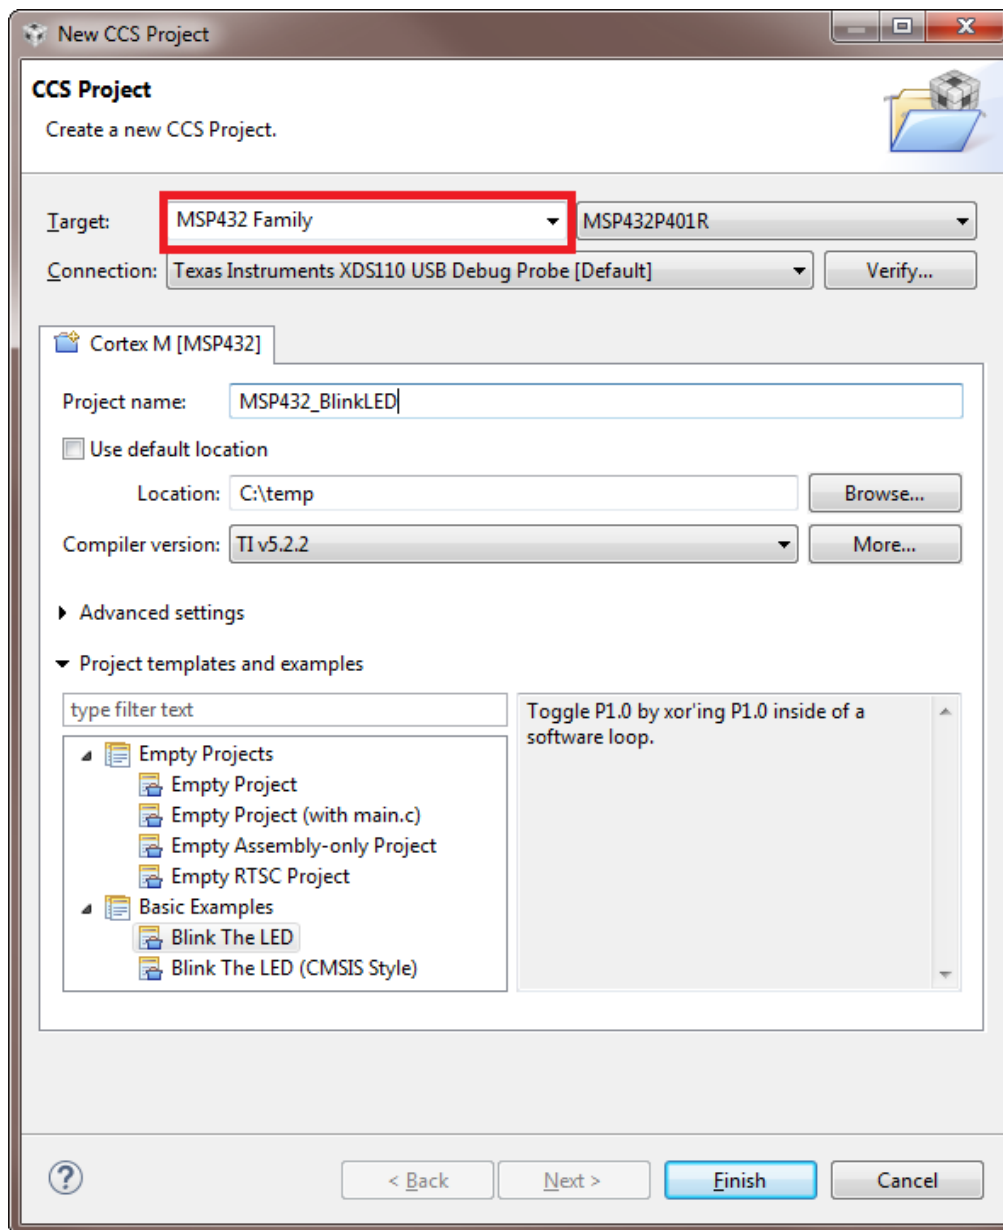

Figure 4. New Project Wizard
- Select **MSP432** as the target family (see Figure 4), which limits the list of devices in the device pulldown list.